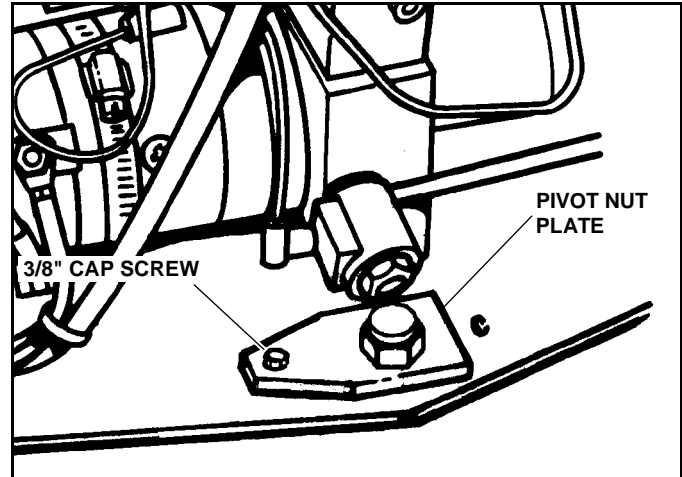

Figure 2-1
- remove the 3/8" Cap Screw and Lock Nut which holds the Lock Plate to the Pump Platform (See Figure 2-1)
3. Remove 3/8" Cap Screw securing Pivot Nut Plate to Motor Mounting Plate. (See Figure 2-1)
4. Remove Nut from 1" Pivot Bolt. (See Figure 2-1)